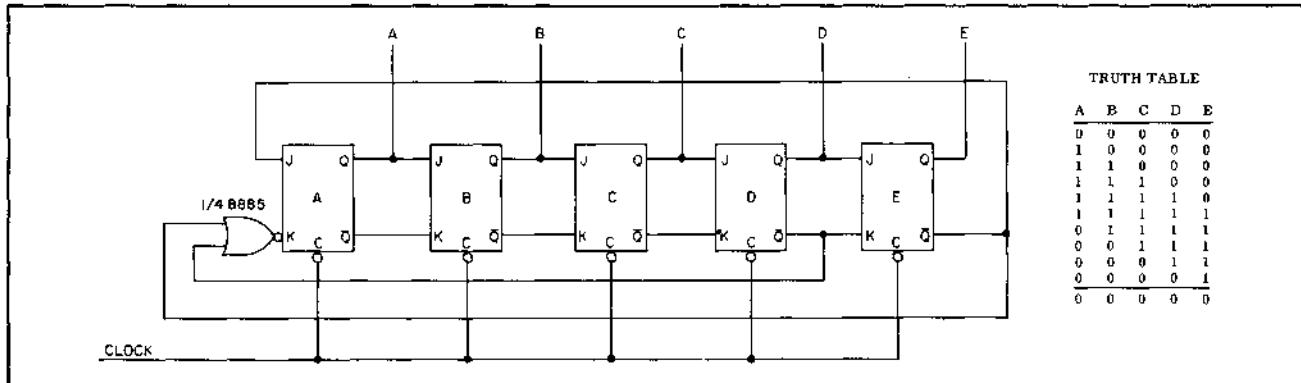

Figure 4-45
Twisted ring counters provide a count of  $2N$  for  $N$  binary bits. This is generally accomplished by feeding back  $Q$  to  $K$  and  $\bar{Q}$  to  $J$ . In some instances, the counter may have sub-loop conditions other than those shown in the truth table. To avoid these conditions, a self-correcting configuration such as that shown in Figure 4-45 should be used.
2. Take the next largest integer above  $\frac{N}{3}$ , where  $N$  is the number of binary bits, and run that many feedback loops from  $\bar{Q}$  to the NOR gate. The loops are connected by starting with the last bit and working back. In Figure 4-45,  $N$  is 5, so  $5/3$  is 1-2/3, and the number of feedbacks required is 2. Hence, feedback loops are connected from the last and next to the last  $Q$ s. If  $N$  were 6, the number would be 3.